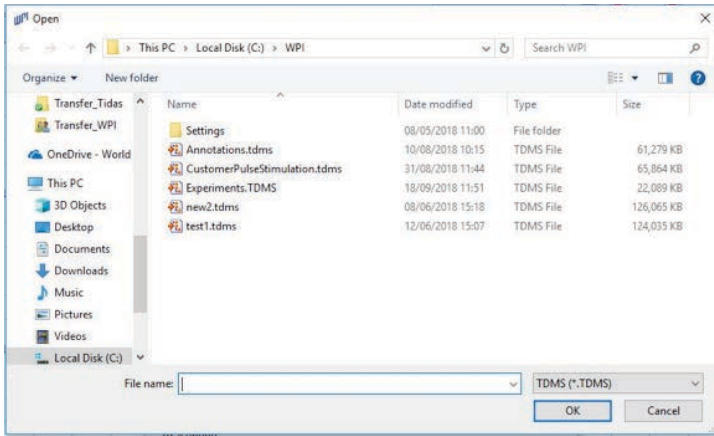

Fig. 22—Select the folder in which data files are saved during the experiments. Each TDMS file can contain multiple experimental runs.
- **Path to location of data file**—Type the path to the location where the data files will be recorded in the experiment. If you prefer, use the **Browse** (📁) button on the right-side of the path box to select the location of the file folder. When the Windows Explorer window appears, navigate to the folder where you want to store your files (Fig. 22). The default setting is: **C:\WPI\Experiments.tdms**.